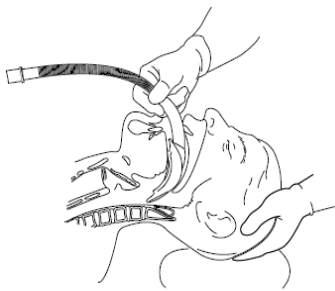

Figure 6: Press the cuff further into the mouth, maintaining pressure against the palate.
4. Slide inwards using a slightly diagonal approach (direct the tip away from the mid-line). (Fig. 6)